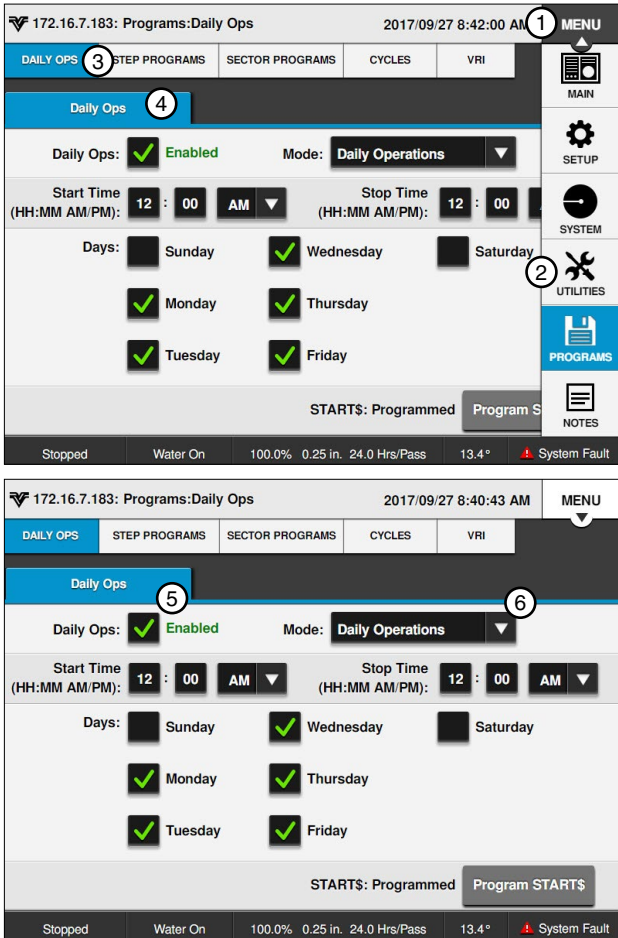

Figure 89-1 1. Menu 2. Programs 3. Daily Ops 4. Daily Ops 5. Daily Ops Check Box 6. Mode
1. Push **Menu**, **Programs**, and **Daily Ops** to display the Daily Ops screen. Refer to Figure 89-1.